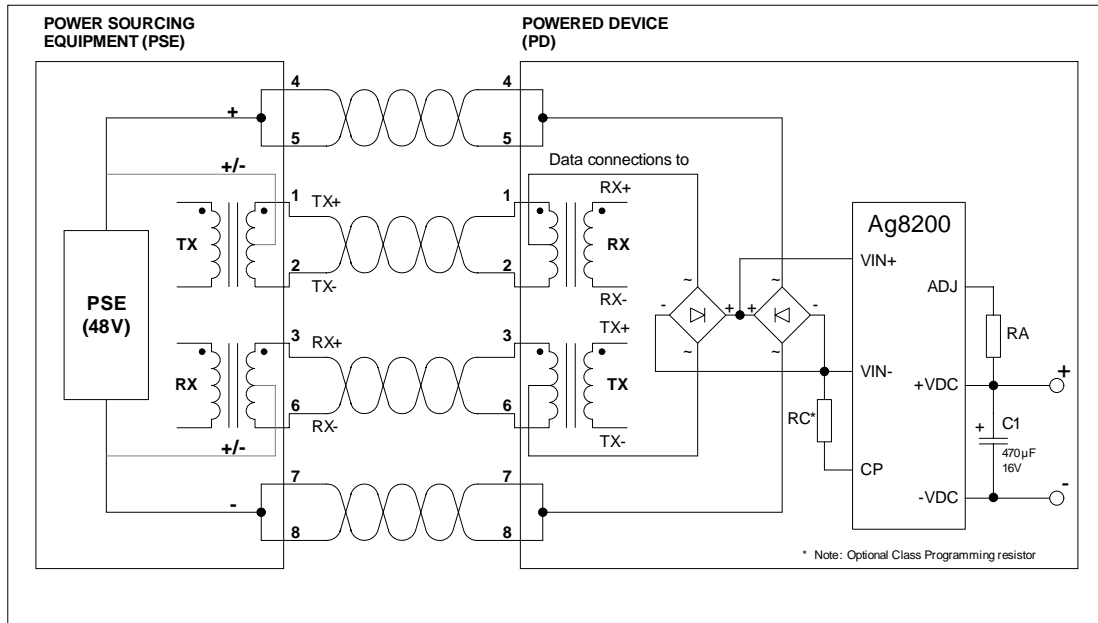

Figure 1: Typical Connection Diagram
Figure 1 shows a basic (10/100 BASE-T) block diagram for connecting Power Sourcing Equipment (PSE) to a Powered Device (PD) that uses an Ag8200 module.
Therefore one of the requirements of the PD is that it must have input polarity protection to enable it to work with both Mode A and B shown in Table 2. The Ag8200 does not have on-board input polarity protection, but this can be simply achieved by using two external bridge rectifiers as shown in Figure 1.